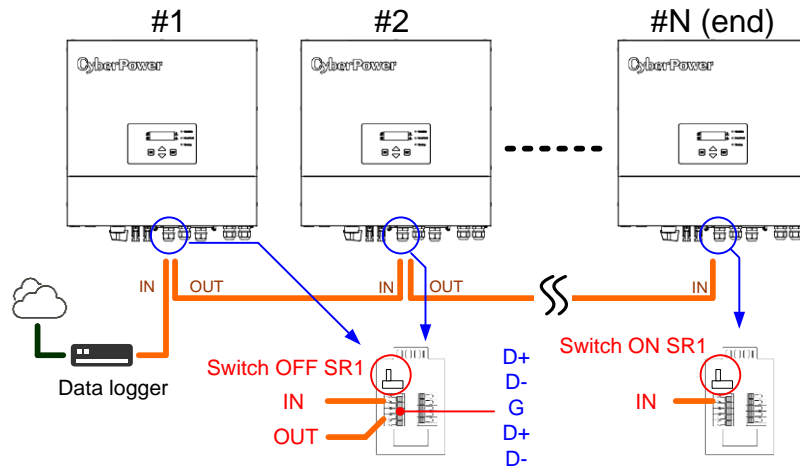

Fig. 3-14 RS-485 communication wiring
6. If there're multi inverters, have to connect IN and OUT terminal in JR2 except the end one, refer to Fig. 3-14 for the RS-485 communication wiring. Switch on the terminal resistor (SR1) in the end one, but keep SR1 OFF in the other units.